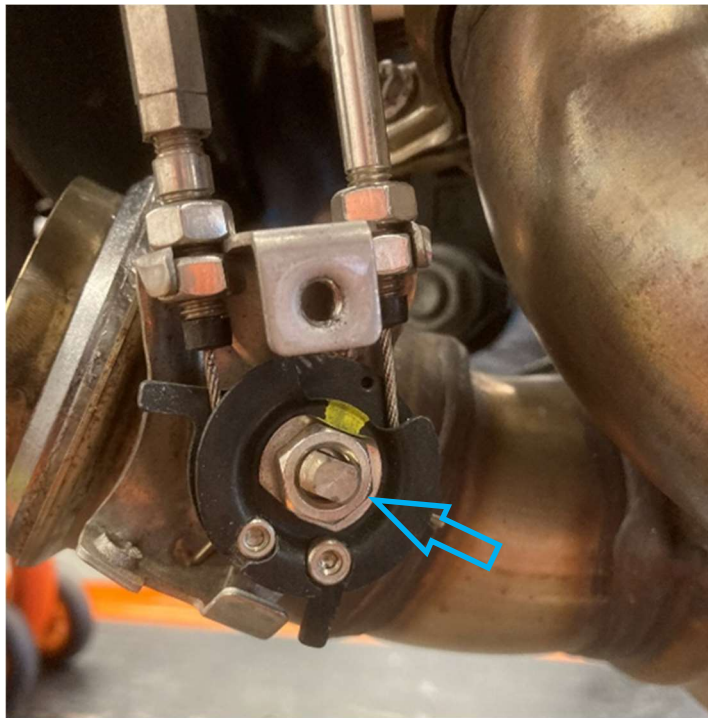
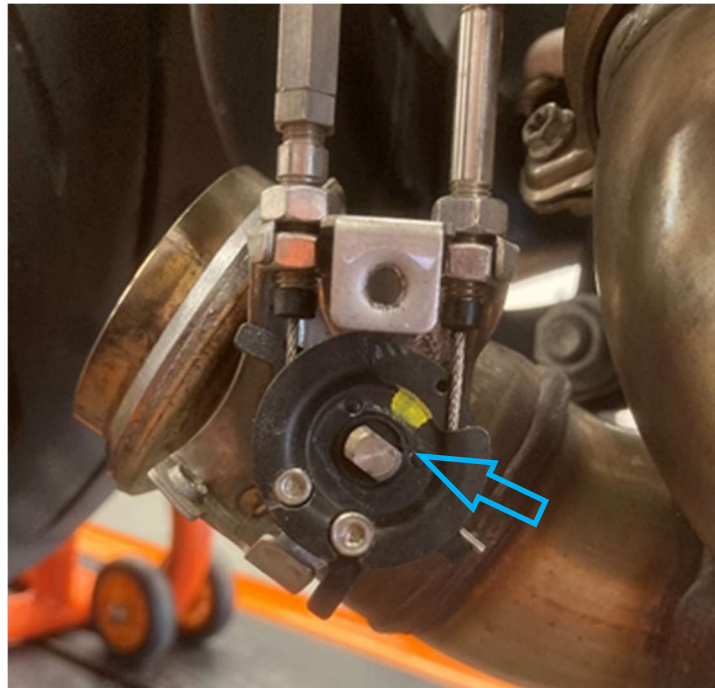

Fig.6 – Locking plate and nut
Fig.7 – Locking plate and nut removed
1. Remove the exhaust flap locking plate and nut, see Fig. 6 and Fig. 7.